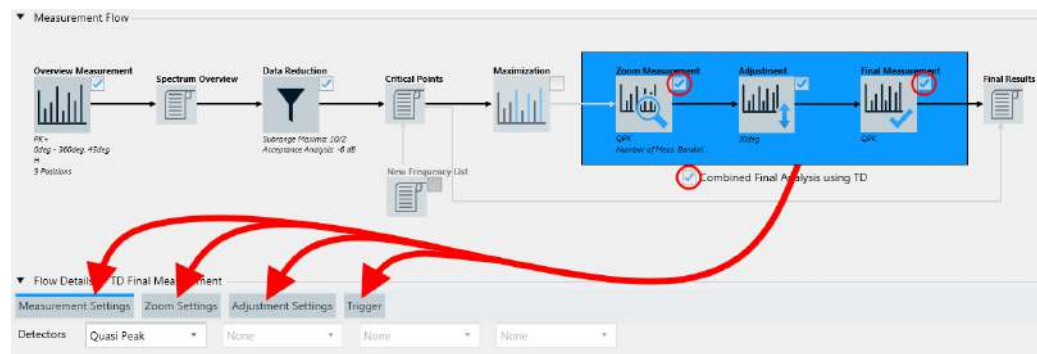

Figure 4-64: The icon for Combined Final Analysis using TD gives access to various settings in the Flow Details
- Both the Zoom Measurement and the Final Measurement are enabled, as indicated by the red circles in Figure 4-64